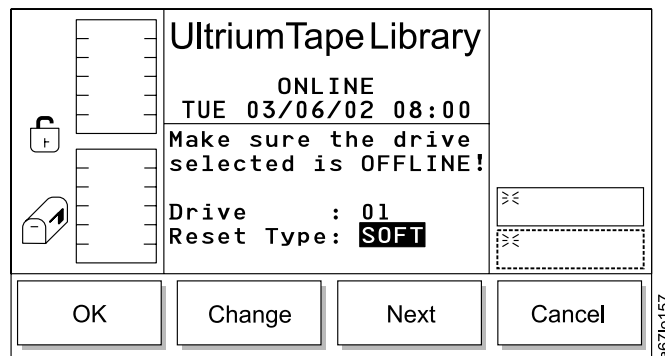

Figure 135. Reset Type Dialog
- If **Next** is selected, the next field becomes the active field (see Figure 135).